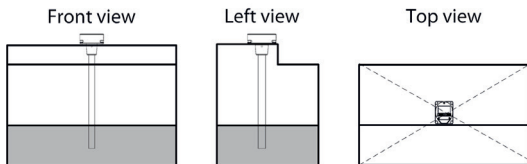

Figure 1. Selection of the installation place for Omnicomm LLS sensor
- The sensor installation place must be as close to the tank's geometric center and be the deepest place in the tank (Figure 1)